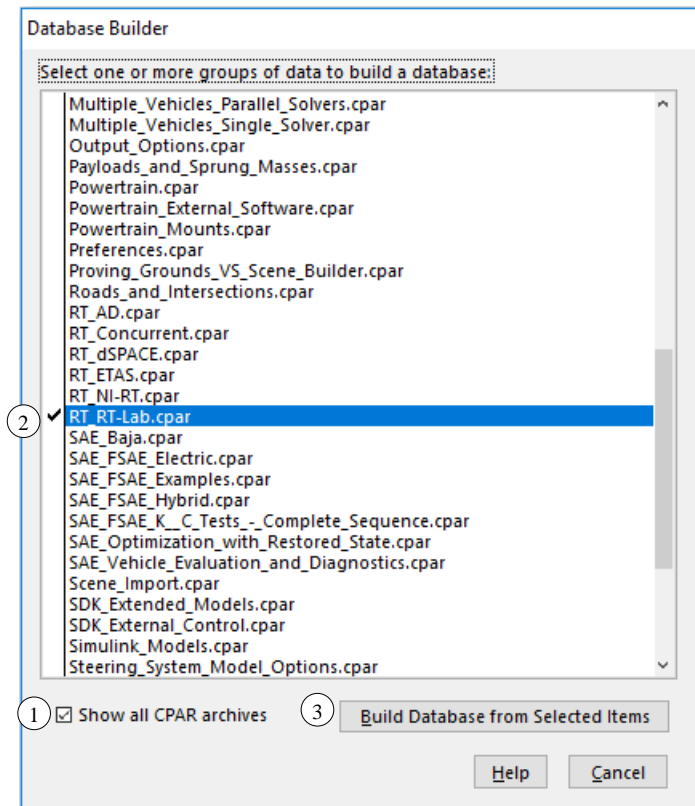

Figure 3. Database Builder.
To build a new database, launch CarSim and select **Open Database Builder...** from the Select Recent Database window. In the Database Builder window (Figure 3), toggle on **Show all CPAR archives** ①. Select `RT_RT-Lab.cpar` ② along with any other data groups that you would like to include in the new database. Click **Build Database from Selected Items** ③. Select the folder where you would like to save the database and click **OK**.